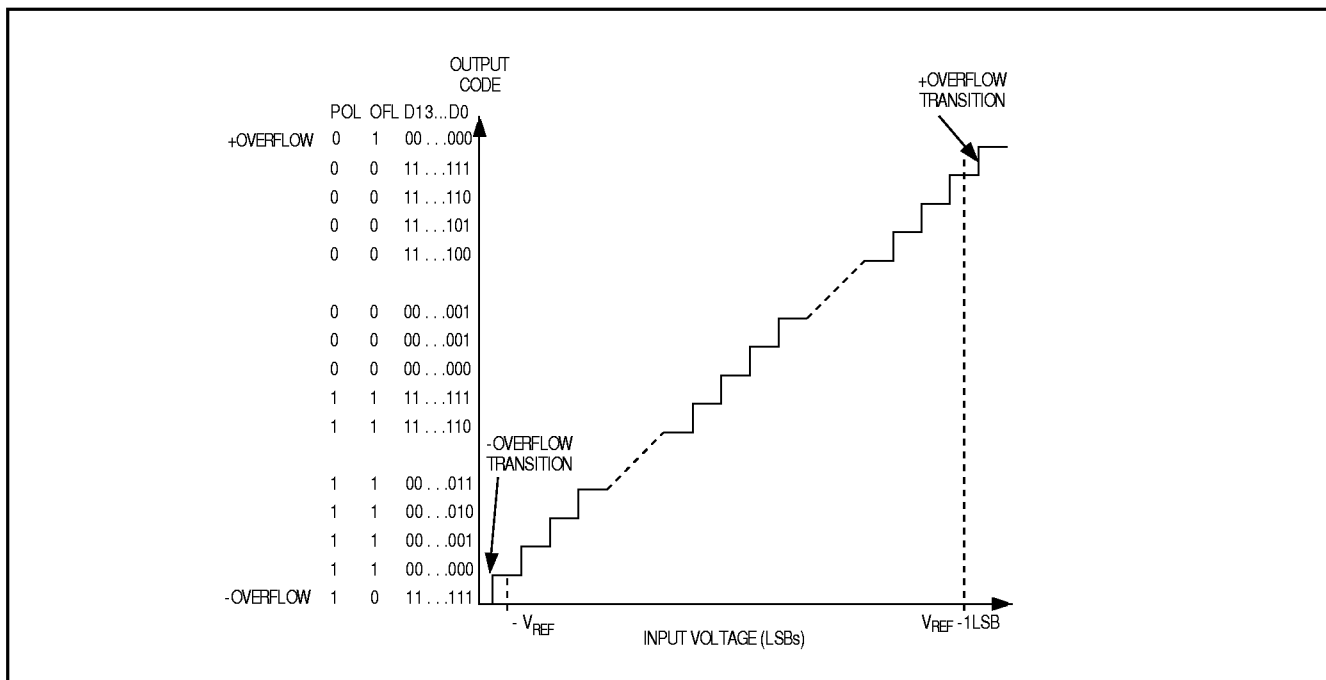
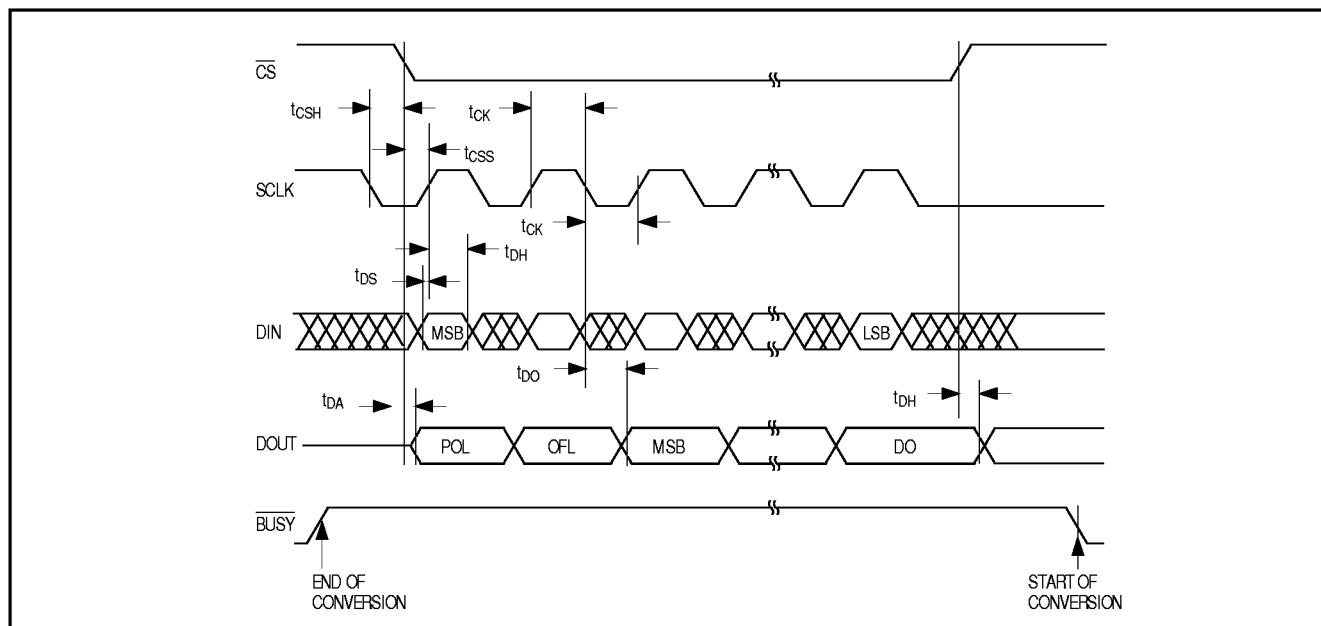

Figure 4. Differential Transfer Function
Figure 6. Detailed Serial-Interface Timing
The output data from the MAX110/MAX111 is arranged in twos-complement format (Figures 4, 5). The sign bit (POL) is shifted out first, followed by the overrange bit (OR), and the 14 data bits (MSB first) (see Figure 6). The MAX110 operates from $\pm 5V$ power supplies and converts low-frequency analog signals in the $\pm 3V$ range when using the maximum reference voltage of $V_{REF} = 3V$ ($V_{REF} = V_{REF+} - V_{REF-}$). Within the $\pm 3V$ input range, greater accuracy is obtained within $\pm 2.5V$ (see *Electrical Characteristics* for details). Note that a negative input voltage is defined as $V_{IN-} > V_{IN+}$. For the MAX110, the absolute voltage at any analog input pin must remain within the $(V_{SS} + 2.25V)$ to $(V_{DD} - 2.25V)$ range.
Data is transferred into and out of the serial I/O shift register by pulling $\overline{CS}$ low and applying a serial clock at SCLK. This fully static shift register allows SCLK to range from DC to 2MHz. Output data from the ADC is clocked out on SCLK's falling edge and should be read on SCLK's rising edge. Input data to the ADC at DIN is clocked in on SCLK's rising edge. A new conversion begins when $\overline{CS}$ returns high, provided the MSB in the input control word ($\overline{NO-OP}$) is a 1 (see *Using the MAX110/MAX111 with MICROWIRE, SPI, and QSPI Serial Interfaces*). Figure 6 shows the detailed serial-interface timing diagram.